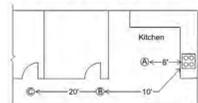

Figure 2: Smoke Alarms and Smoke Detectors Near Cooking Appliances
- Refer to Figure 2:
- A. Photoelectric smoke alarms shall not be installed less than 6 feet horizontally from a permanently installed cooking appliance. (NFPA 72 29.8.3.4 (4))
- B. Ionization smoke alarms with an alarm-silencing switch must not be less than 10 feet from a permanent cooking appliance. (NFPA 72 29.8.3.4 (4))
- C. Ionization smoke alarms without an alarm-silencing switch must not be less than 20 feet from a permanent cooking appliance. (NFPA 72 29.8.3.4 (4))